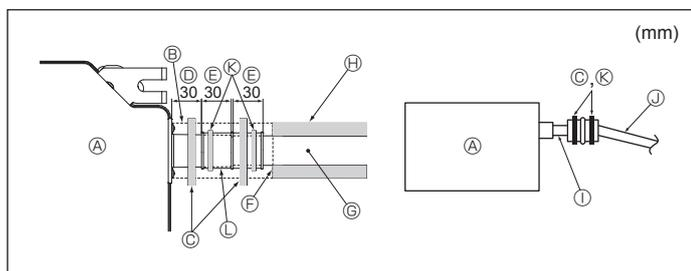

Fig. 6-2
- ① O.D.  $\phi$ 38 PVC TUBE for grouped piping (9 mm or more insulation)
1. Connect the drain socket (supplied with the unit) to the drain port. (Fig. 6-2) (Affix the tube using PVC adhesive then secure it with a band.)